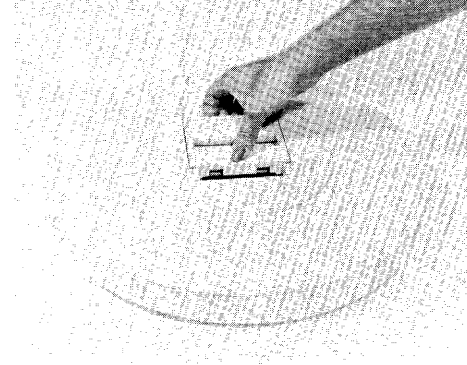
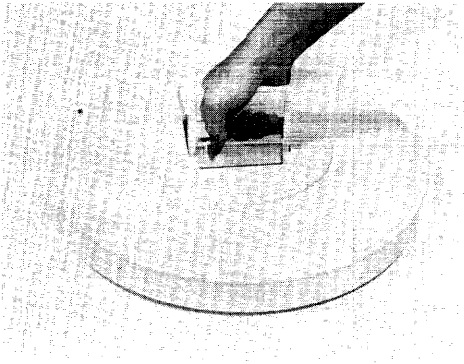

Figure 3-5. Cartridge Loading, Top Load Models
Figure 3-6. Cartridge Loading, Top Load Models
- (4) With the cartridge positioned as shown in Figure 3-5, press the cartridge release/lock (with the thumb) all the way to the side. Holding the cartridge release/lock, grip and pull the cartridge handle smartly to the vertical position shown in Figure 3-6. The cartridge is now released from the cover.